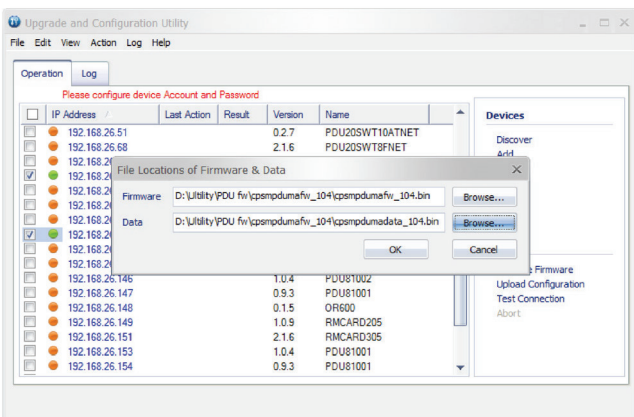

Figure 4
7. Click **Browse** to locate and select the firmware and data file to be updated (Figure 4).